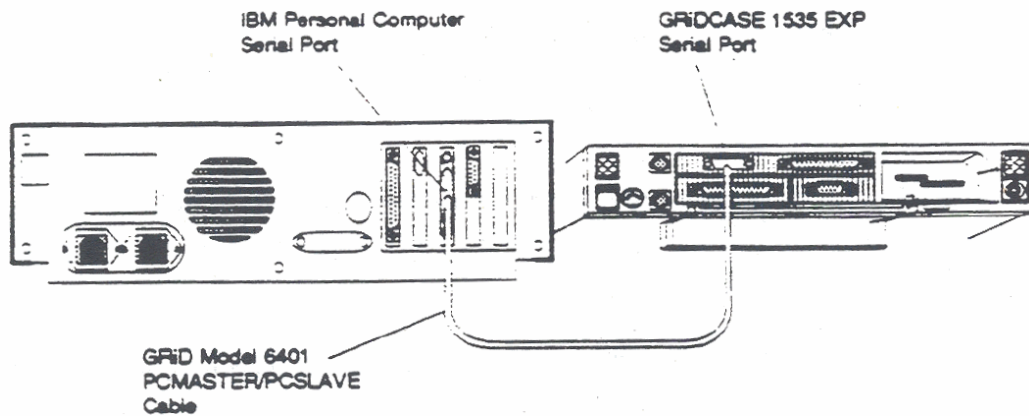

Figure 10-5. PCMASTER/PCSLAVE Cable Connection
2. Connect the serial ports of the two computers using the GRID Model 6401 cable or your own null modem cable as shown in Figure 10-5.